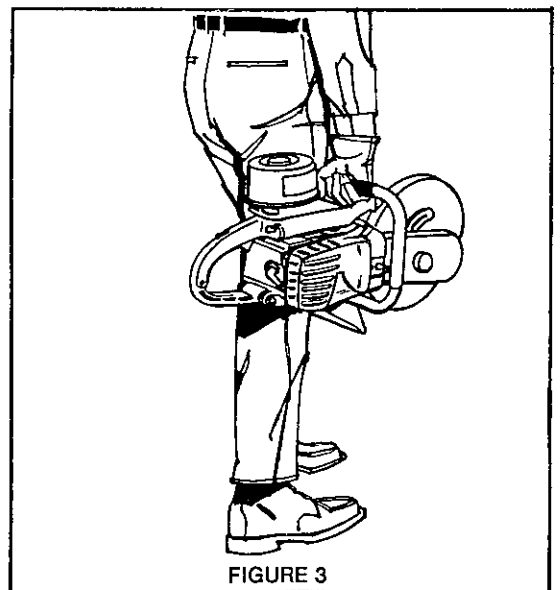

FIGURE 3
11. Do always carry the machine with the engine stopped and the muffler away from your body. (Fig. 3)